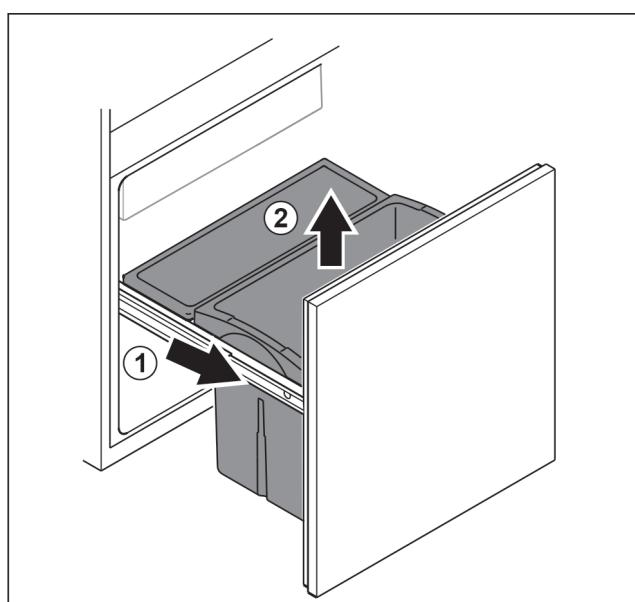

Fig. 101
- Remove the pull-out unit as far as it will go. Fig. 101 (1)
- Remove drawer upwards. Fig. 101 (2)